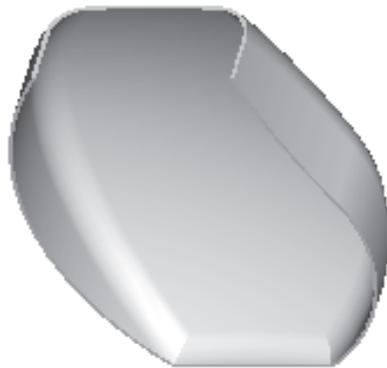

Figure 8-38 Final model after shelling
- d. The third feature is a shell of thickness 2, see Figure 8-38.
4. Enter **2** in the **Message Input Window** and press ENTER. Choose **OK** from the **SHELL** dialog box. The model after creating the shell feature is shown in Figure 8-38.